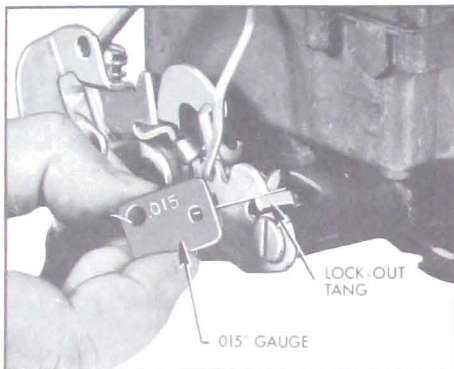

Figure 3-75—Checking Secondary Lock-Out Adjustment
5. **Secondary Lock-Out Adjustment.** Close choke valve so that secondary throttle lock-out tang is on lock-out step of fast idle cam. Check clearance between tang and step using .015" gauge. See Figure 3-75.